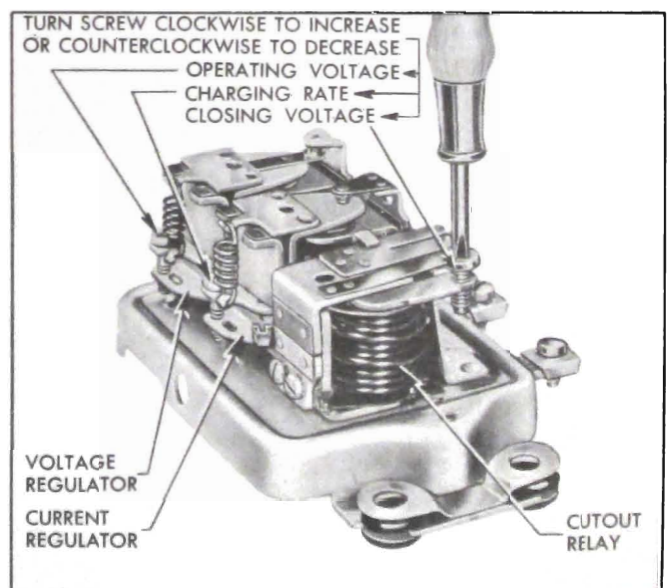

Figure 10-16—Generator Regulator Spring Tension Adjustments
11.8 and 13.6, remove regulator cover and adjust relay armature spring tension to obtain closing voltage of 12.8. Adjusting screw has a *left-hand thread*, therefore turning screw clockwise increases spring tension and closing voltage; turning screw counterclockwise decreases closing voltage. See figure 10-16. *After adjustment install cover and recheck closing voltage.*
21. If contact points are in satisfactory condition but either the voltage or current regulator did not operate within specified limits, adjust armature spring tension as required. Turn adjusting screw clockwise to increase operating voltage or charging rate; turn counterclockwise to decrease operating voltage or charging rate. See figure 10-16. The final setting must always be made by turning screw clockwise to increase voltage or charging rate—never by turning screw counterclockwise.
10. If relay closing voltage is not between 11.8 and 13.6, remove regulator cover and adjust relay armature spring tension to obtain closing voltage of 12.8. Adjusting screw has a *left-hand thread*, therefore turning screw clockwise increases spring tension and closing voltage; turning screw counterclockwise decreases closing voltage. See figure 10-16. *After adjustment, install cover and recheck closing voltage.*
19. If either the voltage or current regulator did not operate within specified limits, remove regulator cover and adjust armature spring tension as required. Turn adjusting screw clockwise to increase operating voltage or charging rate; turn counterclockwise to decrease operating voltage or charging rate. See figure 10-16. *The final setting must always be made by turning screw clockwise to increase voltage or charging rate—never by turning screw counterclockwise.*